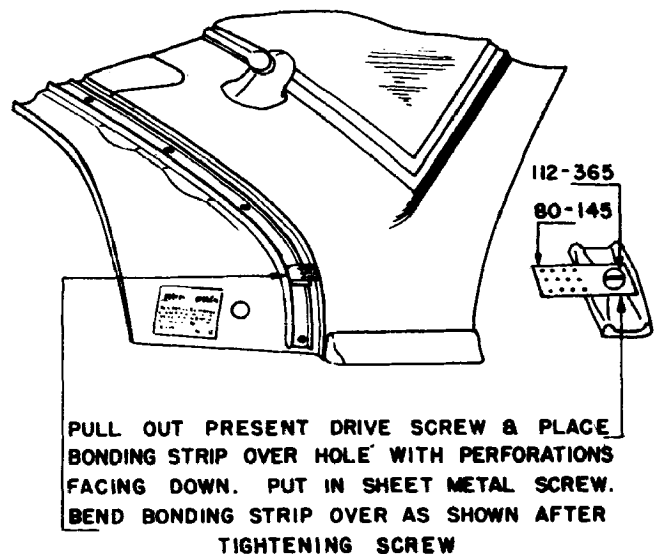

Fig. 8.
6. Install the motor hood bond spring No. 80-145 as shown in Figure 8. Fasten with No. 8 sheet metal screw. Part No. 112-365.